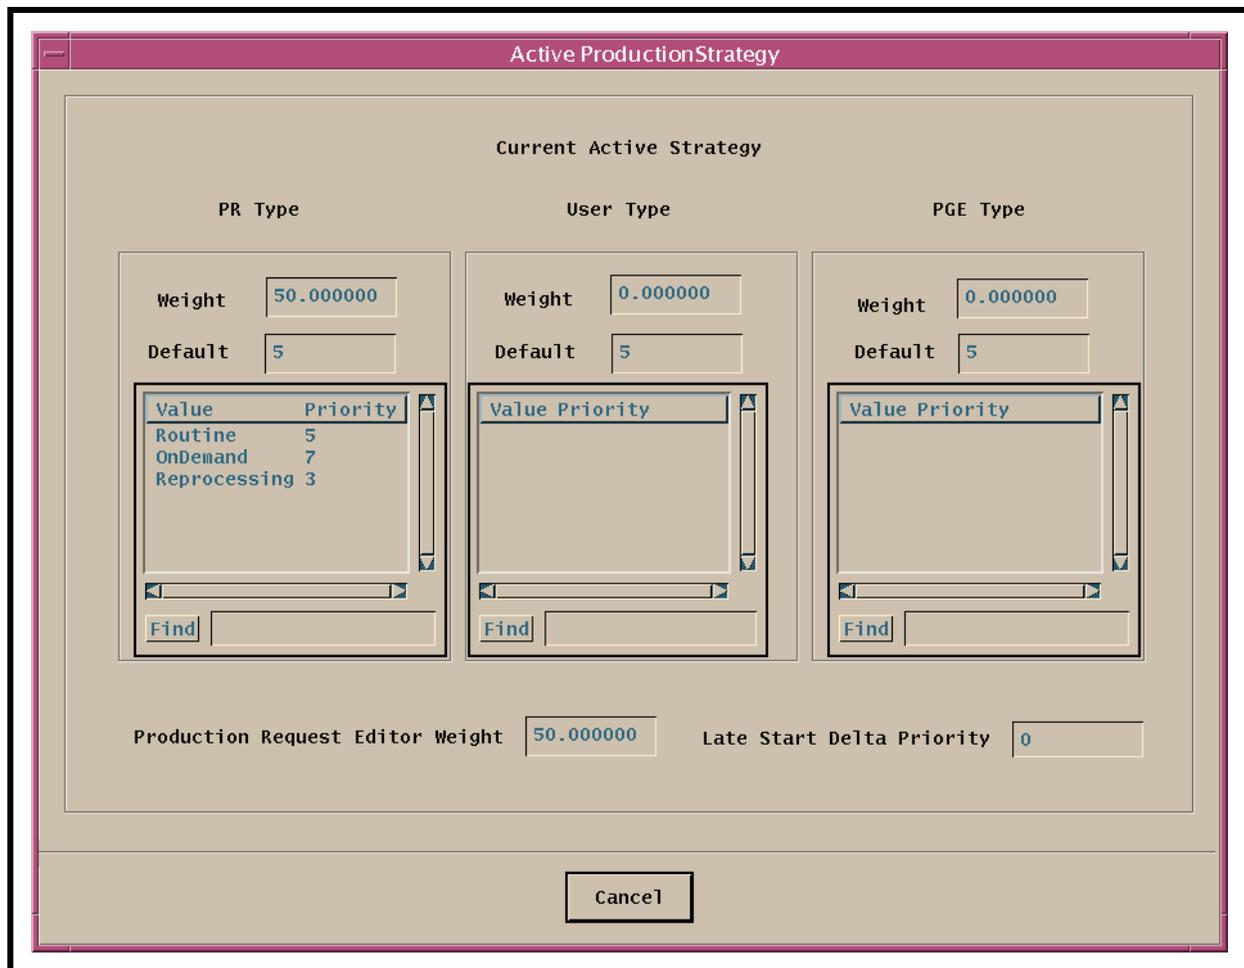

Figure 43. Active Production Strategy Window
- The **Active Production Strategy** window (Figure 43) is displayed.